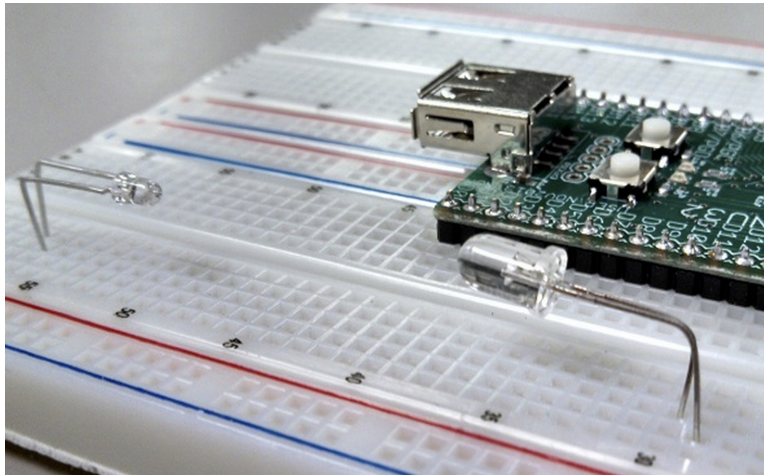

Figure 12.3: The phototransistor (left) and LED (right) pointed toward each other.
2. **Choose R .** Wire up the circuit as shown in Figure 12.1, except for the connection from the LED to OC1. The LED and phototransistor should be pointing toward each other, with approximately one inch separation, as shown in Figure 12.3. Now choose R so that the voltage V_{out} at the phototransistor emitter is close to 3 V when the LED anode is connected to 3.3 V (maximum LED brightness) and close to 0 V when the LED anode is disconnected (the LED is off). (Something in the $10\ \text{k}\Omega$ range may work.) Record your value of R . Now connect the anode of the LED to OC1 for the rest of the project.